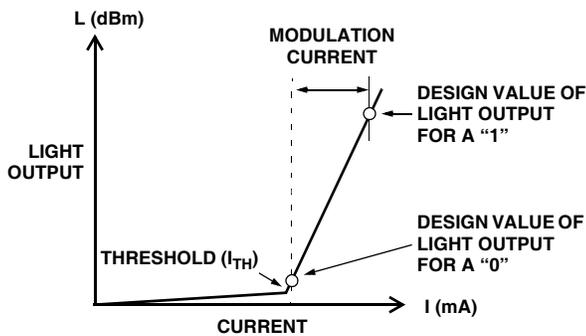

FIGURE 1. IDEALIZED LIGHT OUTPUT vs. CONTROL CURRENT
Optical fiber communication systems often use semiconductor light sources such as a laser diode (LD) or light emitting diode (LED). Both have the advantage that the digital modulation at logic circuit voltages can be directly applied to the operating bias current of the diode, which in turn varies the output power. Laser diodes have advantages for communication systems, since they provide high coupled output power and routinely have high cutoff frequencies which allow for data rates in excess of 10Gb/s. Such high rates, call for purpose-designed circuits to control laser diode currents. A challenge for control circuits is the knee or threshold effect, below which optical output is minimal as shown in Figure 1.